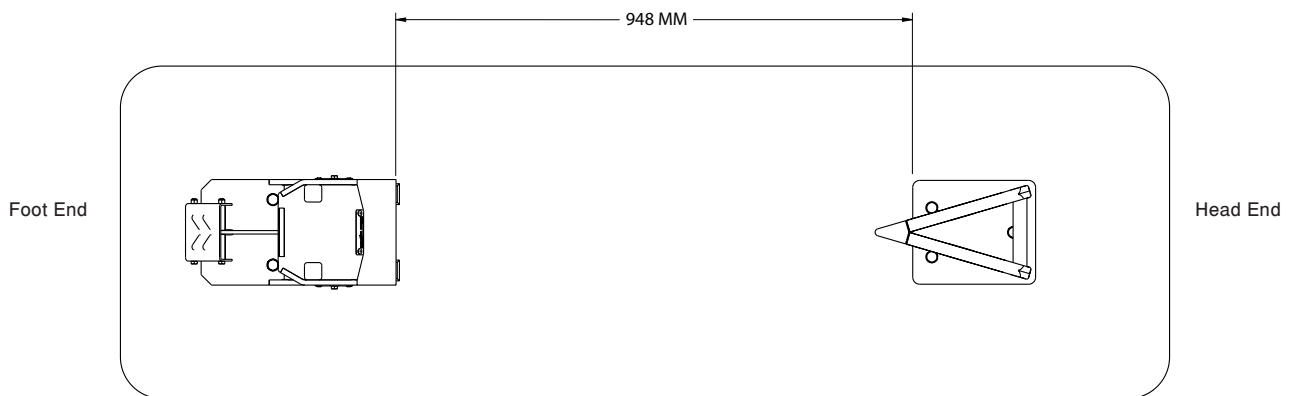

Figure 8: Fastener Spacing
- Confirm fastener spacing as shown in Figure 8.